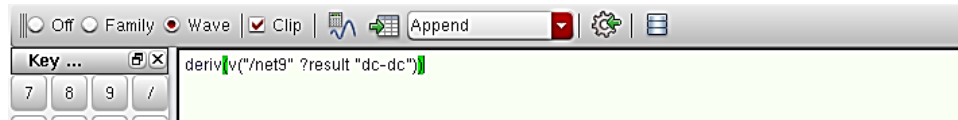

Figure 4.8: Calculator showing deriv function in the buffer
- (e) From **special function** menu, select **deriv** function. This should result in Fig.4.8.